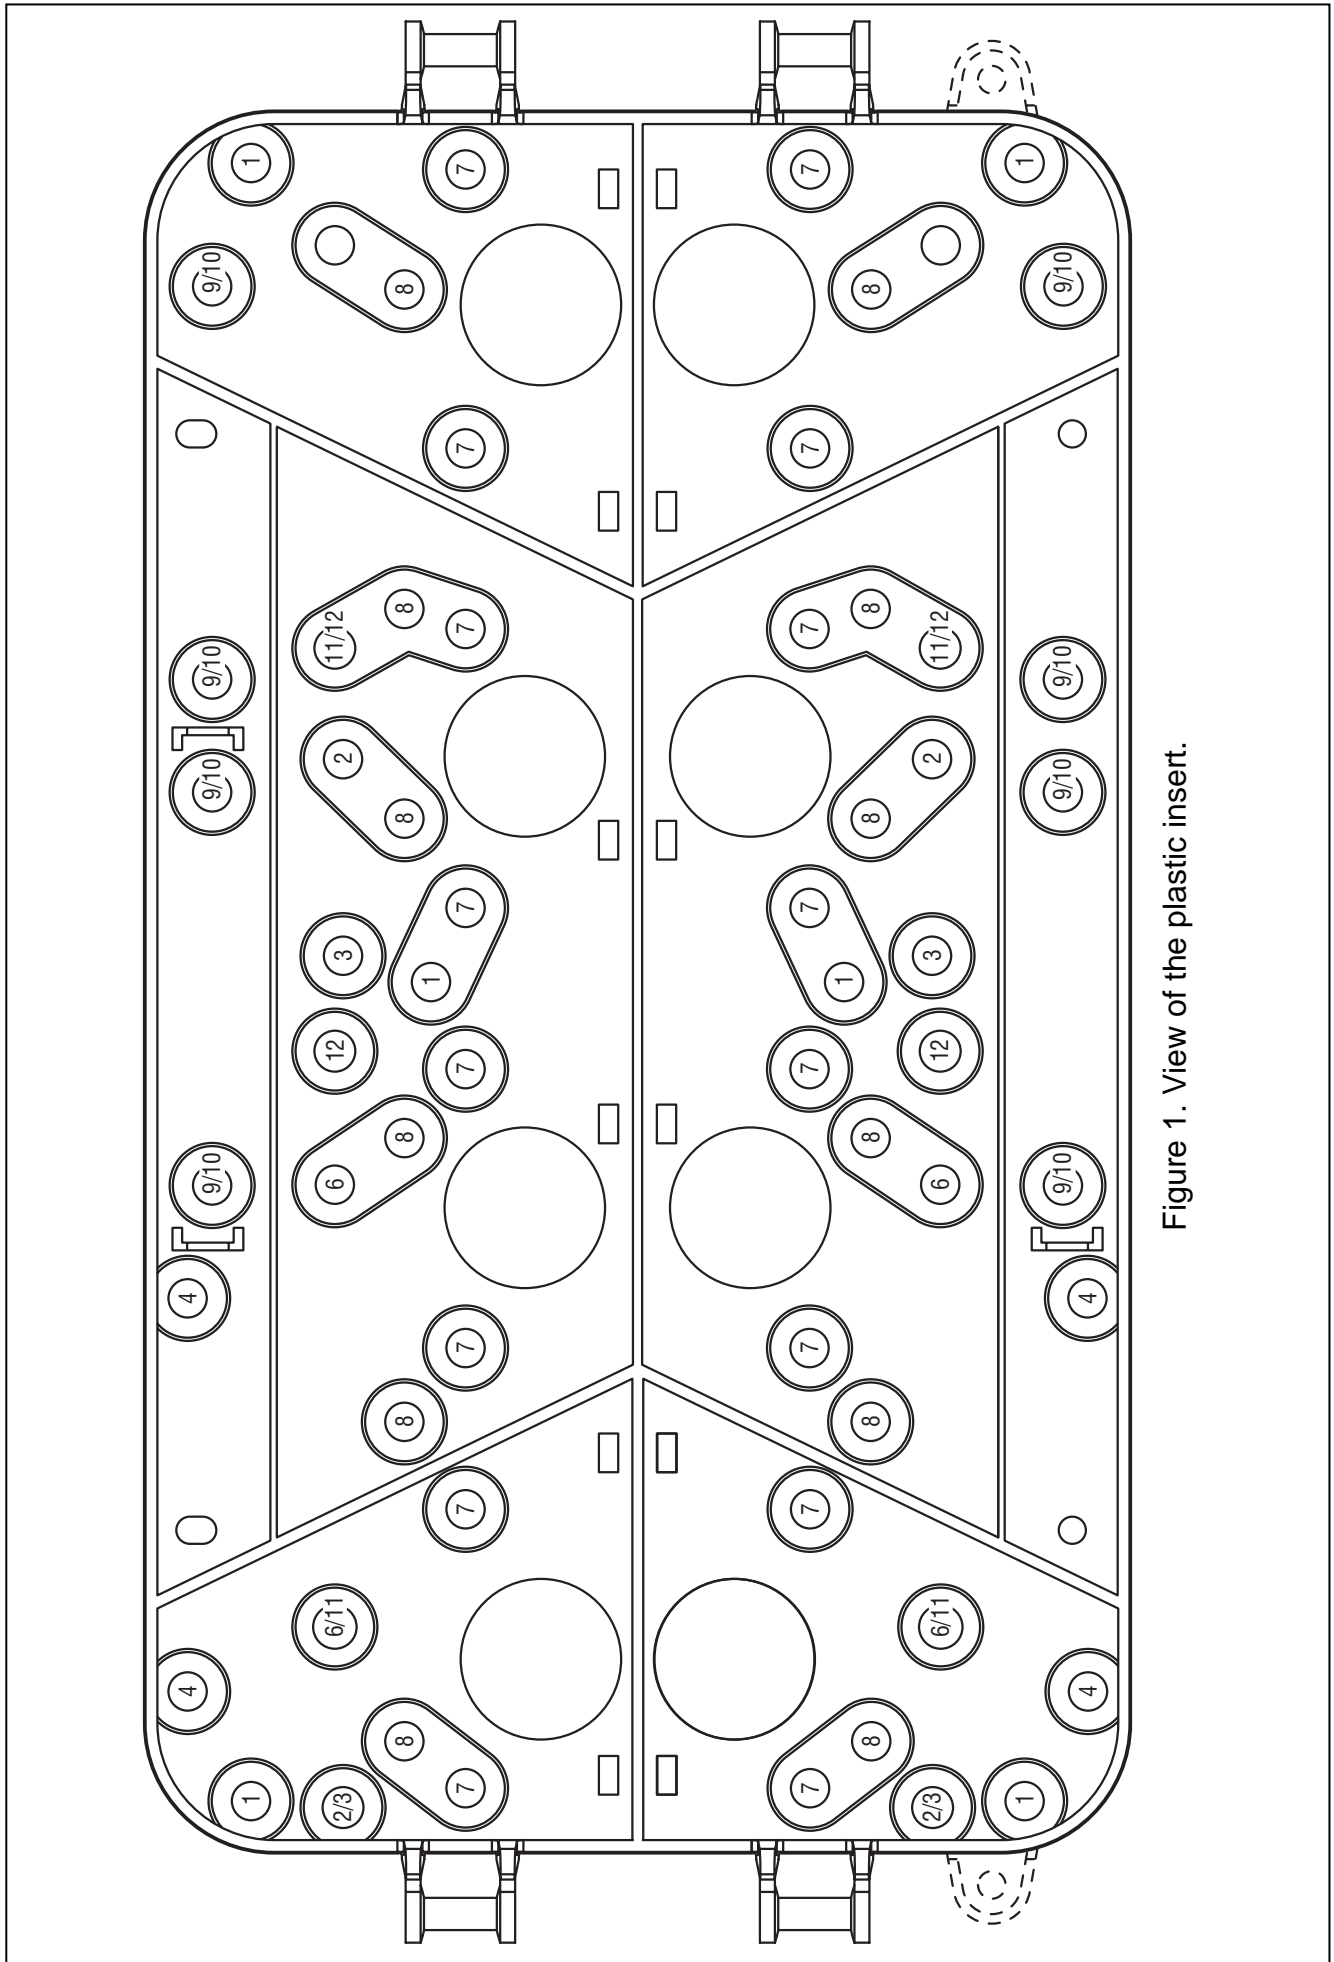

Figure 1. View of the plastic insert.
5. Arrange the layout of modules (see Figure 1 and Table 1) and insert the plastic plugs for fastening the electronics boards in their respective holes (make sure that the plugs do not slide out). It is recommended to place the board with power supply on the lower insert, tightly fastened to the base.
Table 1. List of devices fitting to the holes in plastic inserts of the OPU-3 P housing according to the Figure 1.